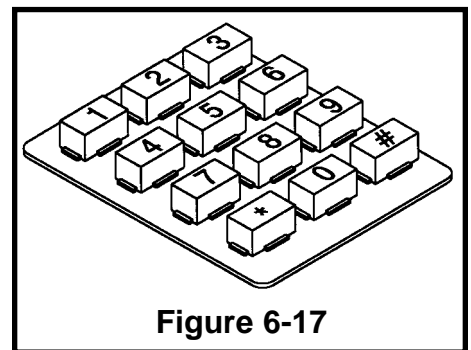

Figure 6-17
- If not already in place, snap the dial buttons onto the contact pad as shown in Figure 6-17.